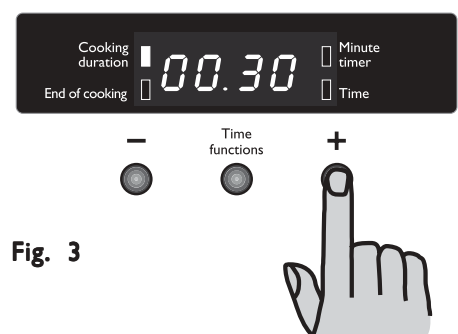

Fig. 3
1. Press button "+" or "–" (Fig. 3).